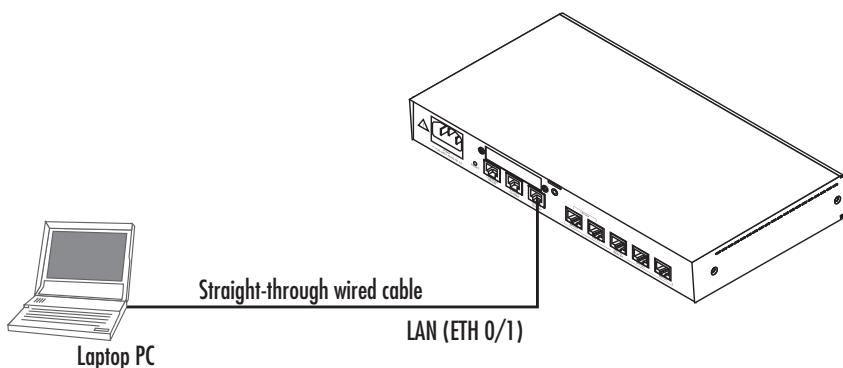

Figure 1. Connecting the VOE210 to the PC
1. Connect the PC's Ethernet port to *LAN (ETH 0/1)* port of the VOE210. The VOE210 Series is equipped with Auto-MDX Ethernet ports, so you can use straight-through Ethernet cables for host or hub/switch connections. (See Figure 1.)